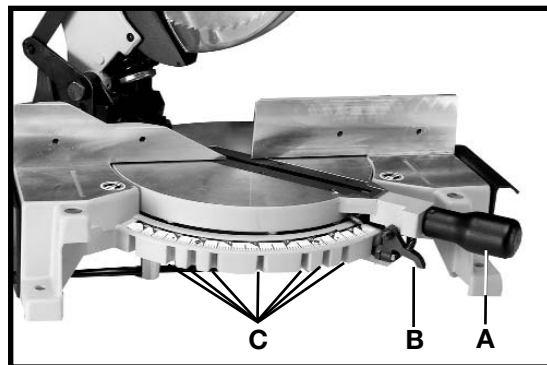

Fig. 12
Your miter saw will cut any angle from a straight 90 degree cut to 47 degrees right and left. Loosen lock handle (A) Fig. 12 one or two turns, depress index lever (B), and move the control arm to the desired angle. **TIGHTEN LOCK HANDLE (A).**
The miter saw is equipped with positive stops at the 0, 15.5, 22.5, 30, and 45 degree right and left positions. Loosen lock handle (A) Fig. 12, depress index lever (B), and move the control arm until the bottom of the index lever engages into one of the positive stops (C). **TIGHTEN LOCK HANDLE (A).**
**IMPORTANT: ALWAYS TIGHTEN LOCK HANDLE (A) FIG. 12 BEFORE CUTTING.**